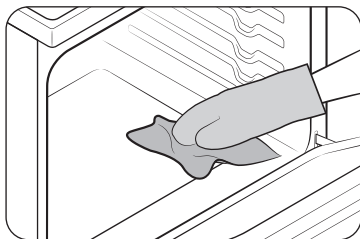

Fig. 1
- Wipe up debris from the oven bottom. (Fig. 1)